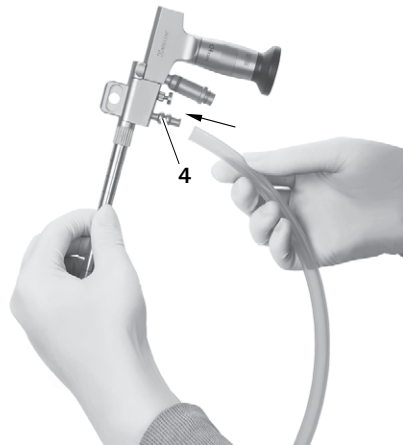

Fig. 20
- Connect the irrigation tube with the irrigation connector **4**, see Fig. 20.